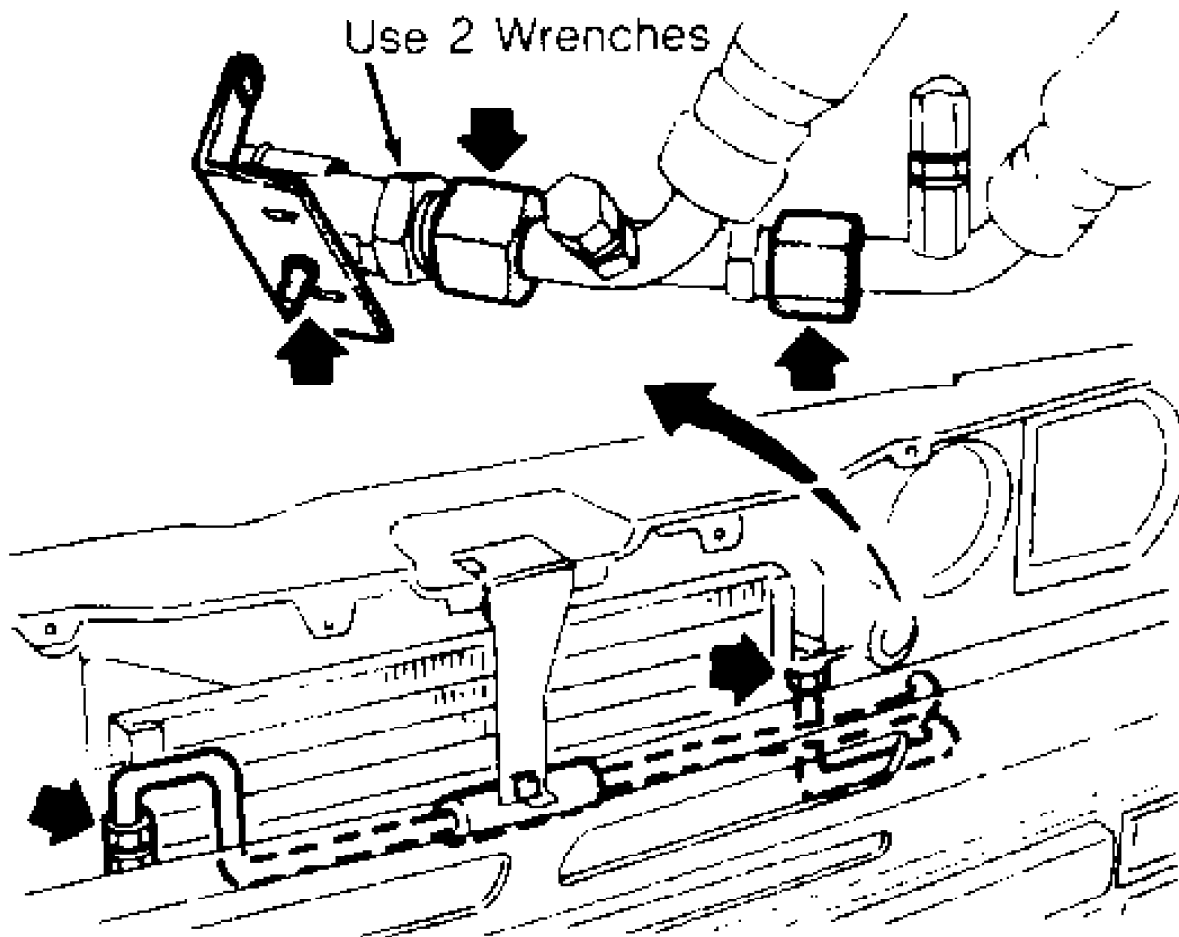

Fig. 6: Disconnecting A/C Lines for Condenser Removal
2) Remove front grille. Detach right headlight assembly. Disconnect refrigerant lines from condenser and receiver-drier. See Fig. 6. Remove refrigerant lines from condenser and plug openings. Remove condenser.
Discharge A/C system using approved refrigerant recovery/recycling equipment. Disconnect low pressure switch connector (if equipped). Disconnect A/C lines from receiver-drier and plug openings. See Fig. 6. Remove screws and receiver-drier.